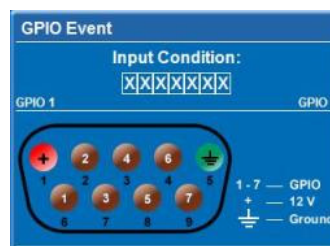

FIGURE 4-15 GPIO OUTPUT HELPER
- If a **GPIO** command string is needed, click the **GPIO Output Helper** button for instructions on how to create the command structure. NOTES: 1) The **Output** field contains 7 blocks which refer to the 7 I/O pins on the GPIO connector. Pin 1 = +12V and Pin 5 = Ground. These are not included. 2) Clicking a block toggles between H, L, and X. 3) If the Pulse check box is selected, those I/O Pins defined will pulse high or low. See Figure 4-15 GPIO Output Helper. See Appendix B: for detailed information.